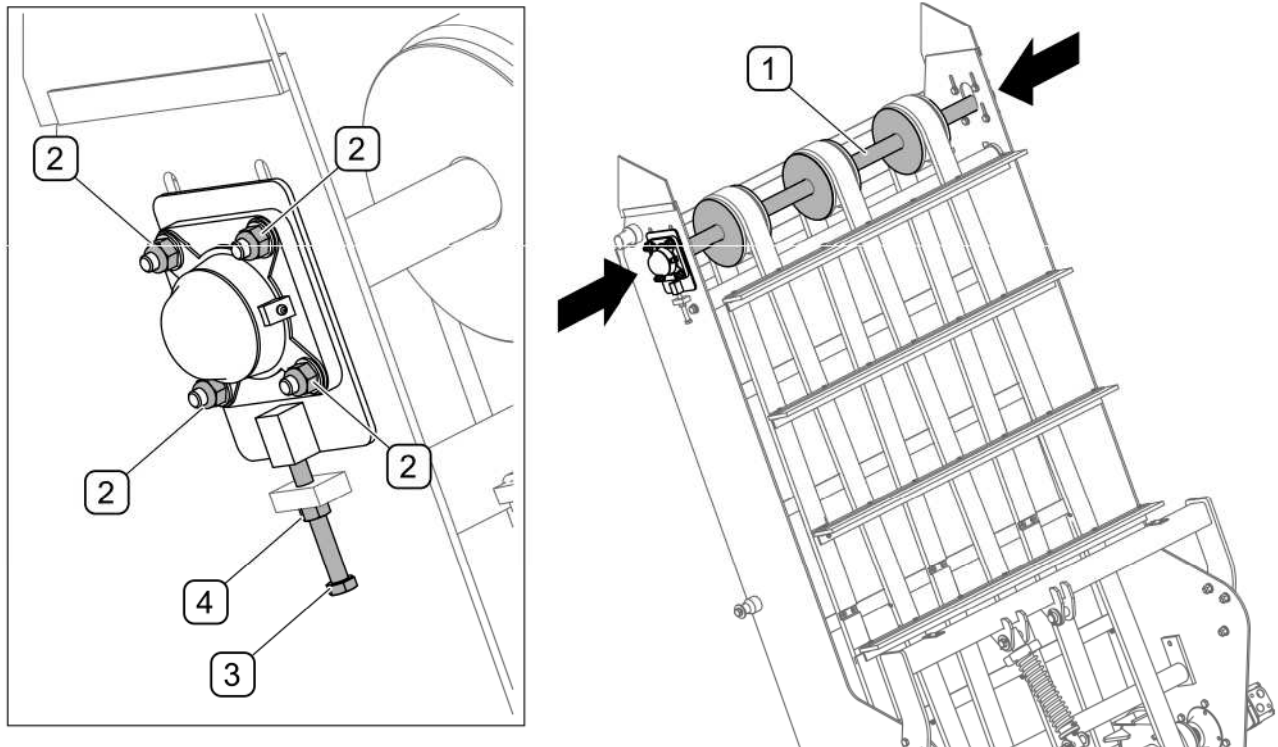

FIG. 5.9 **Tightening the elevator belts**
(1) - tightening shaft; (2) - shaft bearing nuts; (3) - tensioner bolt; (4) - counter nut
Tightening of belts (FIG. 5.9) is carried out on both sides of the elevator. After loosening of 4 bolts (2) and nut (4), move tightening shaft (1) by means of tensioner bolt (3). Perform this activity on both sides of the elevator. After adjustment, tighten counter nuts (4) and nuts (2) that fix the tightening shaft bearing.